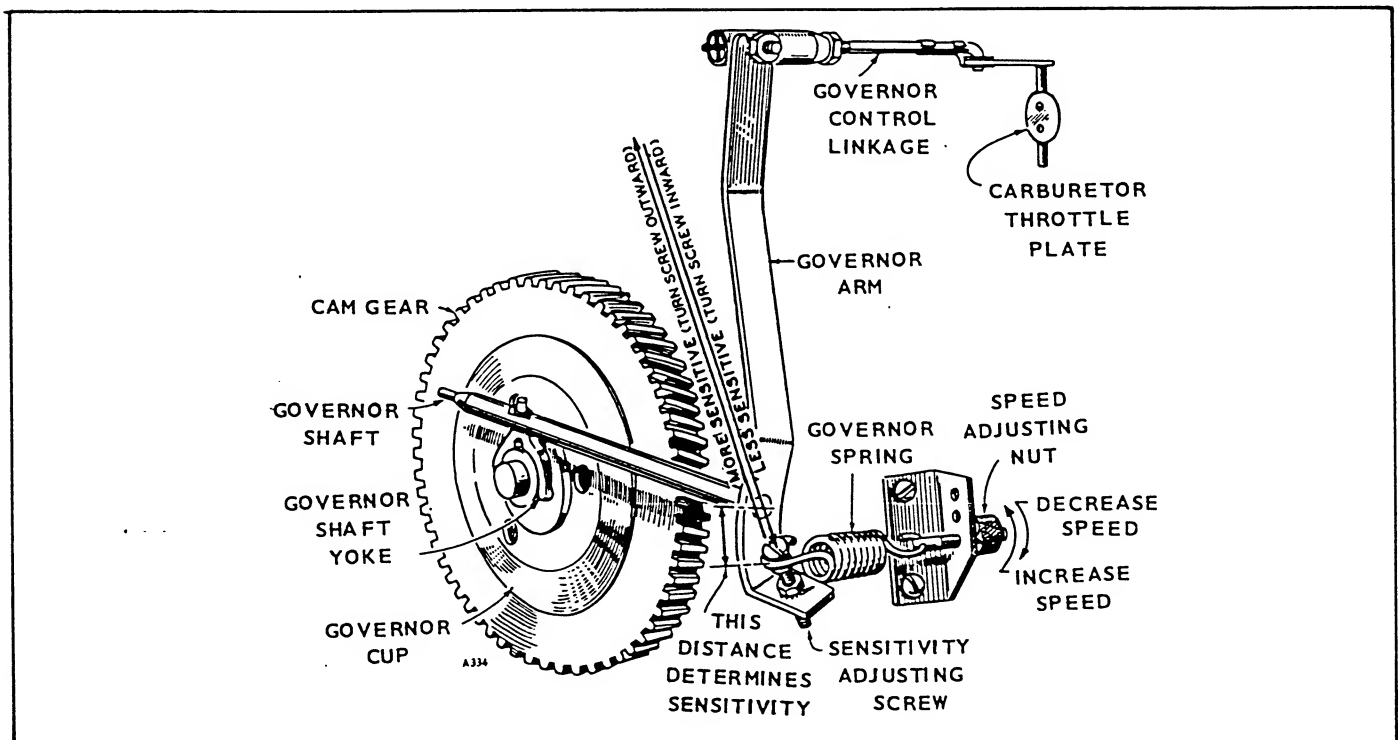

FIGURE 12. GOVERNOR ADJUSTMENT
**Adjusting the Governor:** Refer to Figure 12. Connect a voltmeter across the output of the generator. With no electrical load connected, start the plant and adjust the speed adjusting nut to give a voltmeter reading of approximately 126 volts maximum for a 120 volt plant. Apply a full rated electrical load and again observe the voltage reading, which should be approximately 110